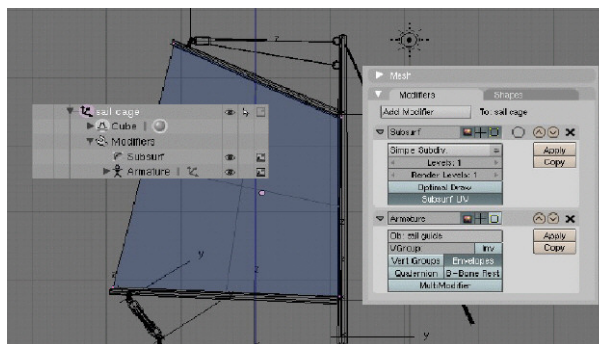

Figure 7: boom and tackle assembly
- Take the spare block with the ring on the top and move it to the ring at tip of the boom (see figure 7). “Parent” it to the “boom comp” and name it “block@boom”.